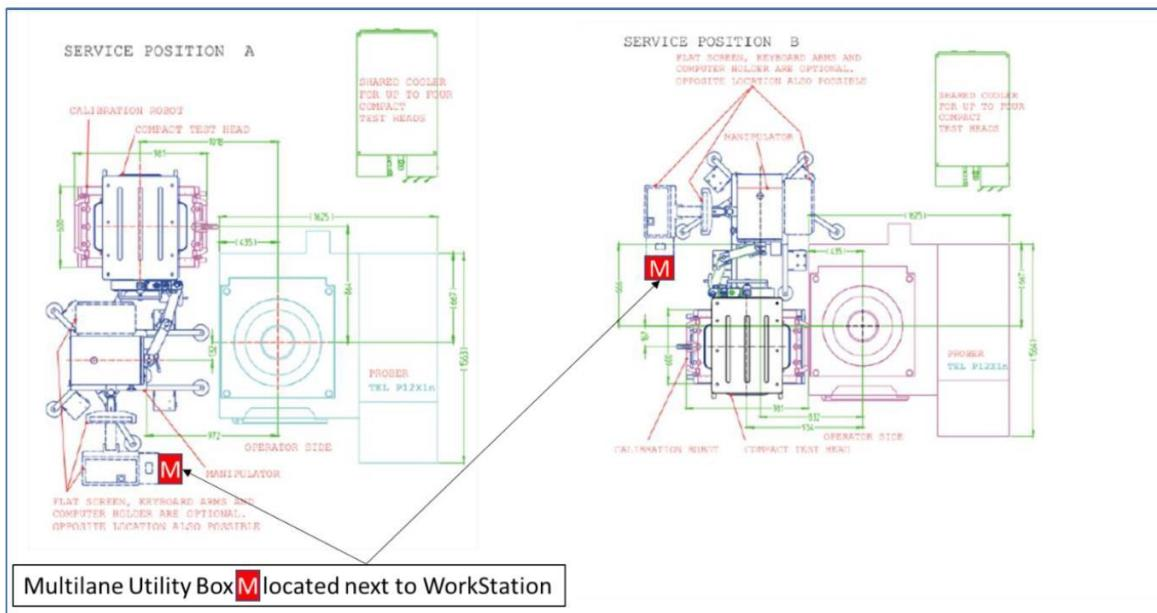

Figure 2: AT93000 Utility Box Location
- Suggested Utility Box location placement show in Figure 2: AT93000 Utility Box Location